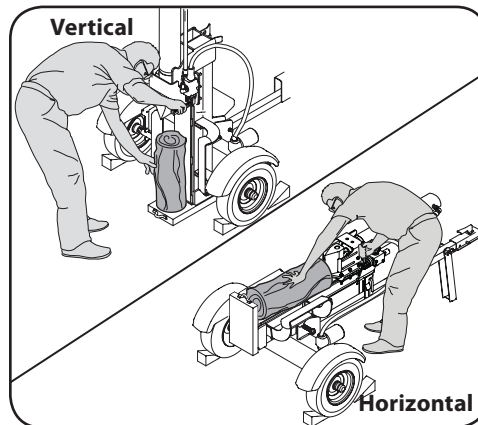

Figure 3-2
2. Block the front and back of both wheels. See Figure 3-2.
3. To stabilize the log, place your left hand on the side of the log opposite the beam as shown in Figure 3-2.